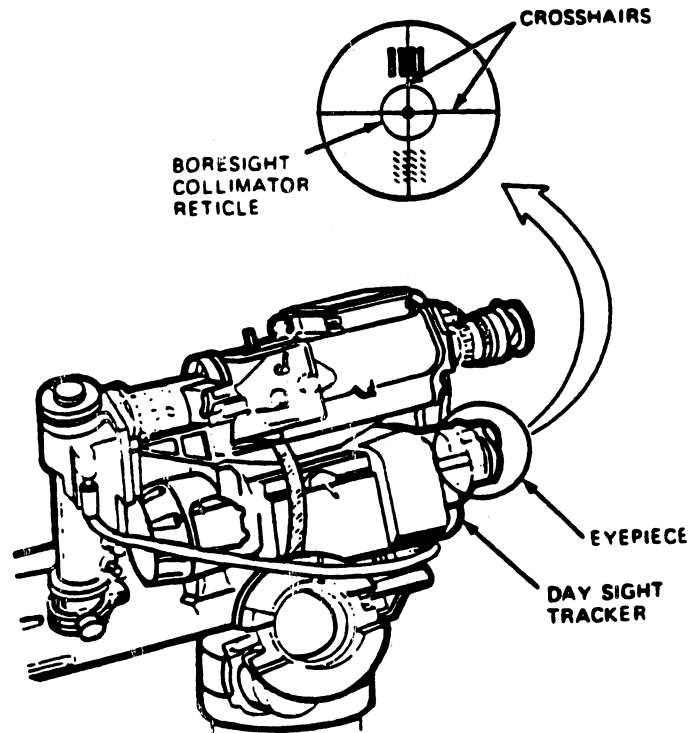

Fig 3-30. Day sight/collimator reticle.
Step 2. Look into the eyepiece of the day sight tracker and check the alinement of the boresight collimator reticle (fig 3-30).